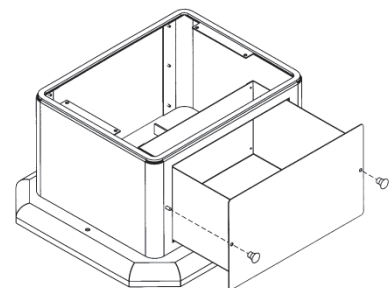

FIGURE 24
- Periodically remove and empty ash bin (see Figure 24) by unscrewing the two knobs on the front of the pedestal below the ash lip. Dispose of ashes properly. (See “**ASH REMOVAL**” above)